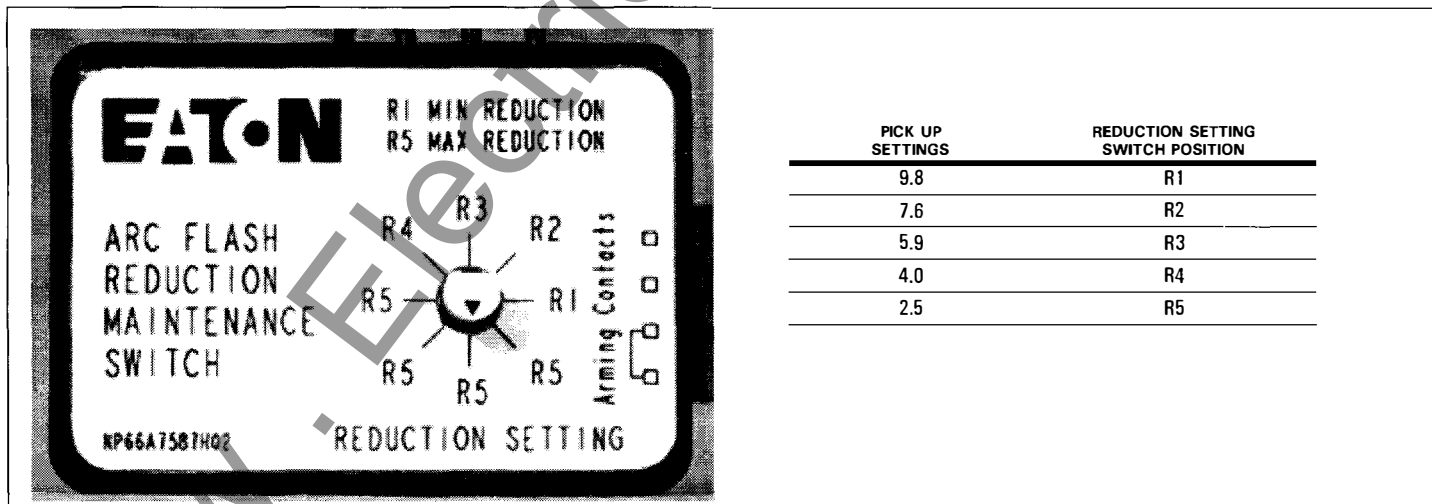

Figure 1. Arcflash Reduction Maintenance Switch RS.
The Arcflash Reduction Maintenance Switch has five (5) reduction settings (RS) (see Figure 1) that are based on multiples of the per unit secondary current monitored by the trip unit of its associated circuit breaker:
3. Choose a RS for the Arcflash Reduction Maintenance Switch that is below the minimum arcing current (85% of calculated arcing current) and above the total transient load current (see Figure 1). Include the tolerance of the Arcflash Reduction Maintenance Switch pickup in the setting choice.